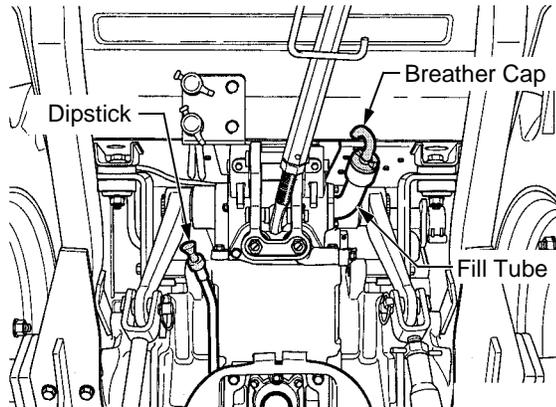

Figure 60
- Locate the transmission dipstick on the top/rear of the transmission at the back of the tractor. See Figure 60.
- Clean the area around the breather cap and fill tube on the back of the transmission to prevent debris from entering the transmission. Then turn the cap counterclockwise to unscrew from the oil fill tube. Refer to Figure 60.
- Clean the area around the transmission dipstick and breather cap to prevent debris from entering the transmission. Refer to Figure 60.